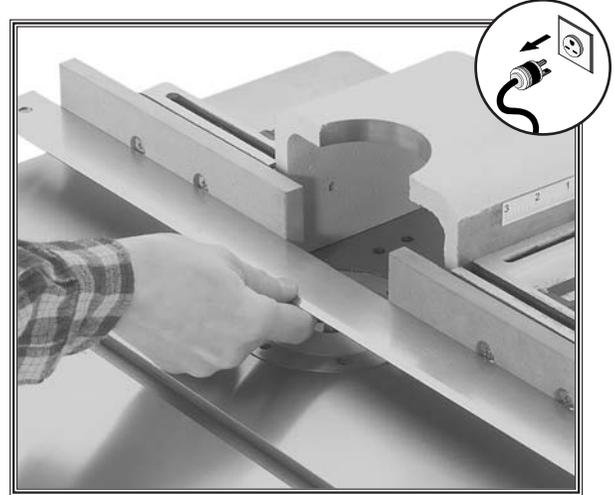

Figure 65. Checking fence board parallelism.
2. Make sure the fence boards are even with each other, then place the straightedge against both fence boards, as shown in **Figure 65**.